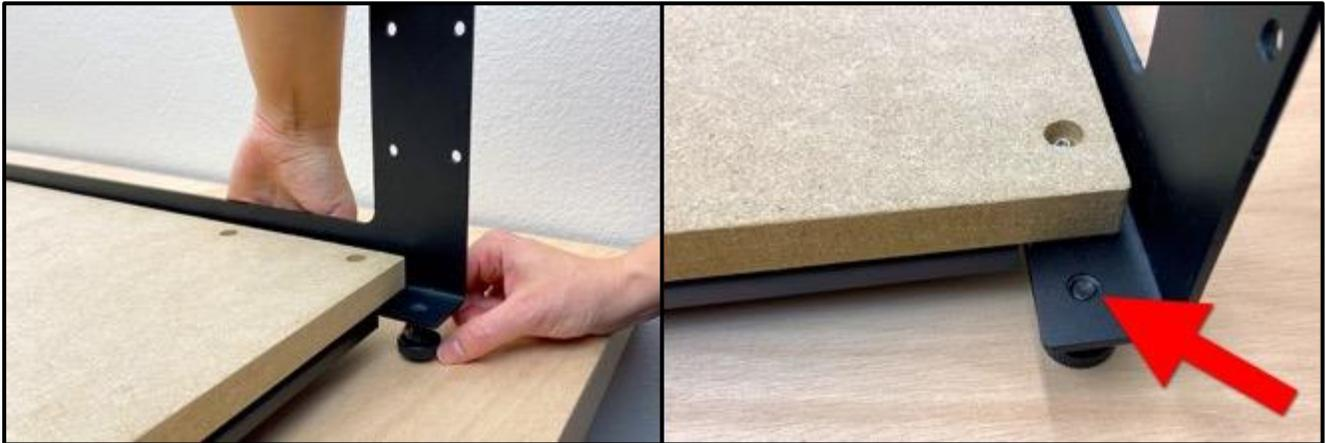

Figure 2-13
1. Carefully lift each corner of the baseframe and screw in the four adjustable leveling feet, two per endplate, as shown in **Figure 2-13**.
2. Screw in each adjustable leveling foot until it is flush with the endplate as shown in **Figure 2-13**.